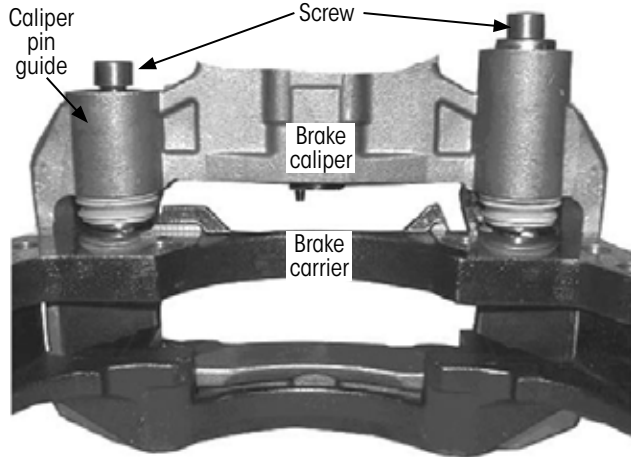

Figure 49: Removing guide pin screws
4. Remove guide pin screws (Figure 49). Refer to APPENDIX A: WRENCH SIZE AND TIGHTENING TORQUES on page 36, item IV.